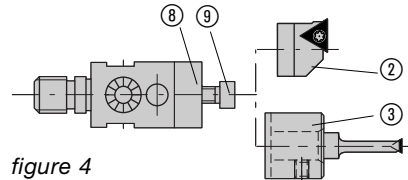

figure 4
Adjusting plate ⑧ is serrated to enable different tool holders ② and connectors ③ to be mounted quickly and easily (figure 4).
Insert holders are equipped with a slot. The insert holders are fitted to the precision tool at a position along the slot to suit the machining diameter required. This is the preliminary adjustment. Tighten the cap screw ⑨ applying a torque of **2 Nm** (17.7 in. lbs.) (figure 4).